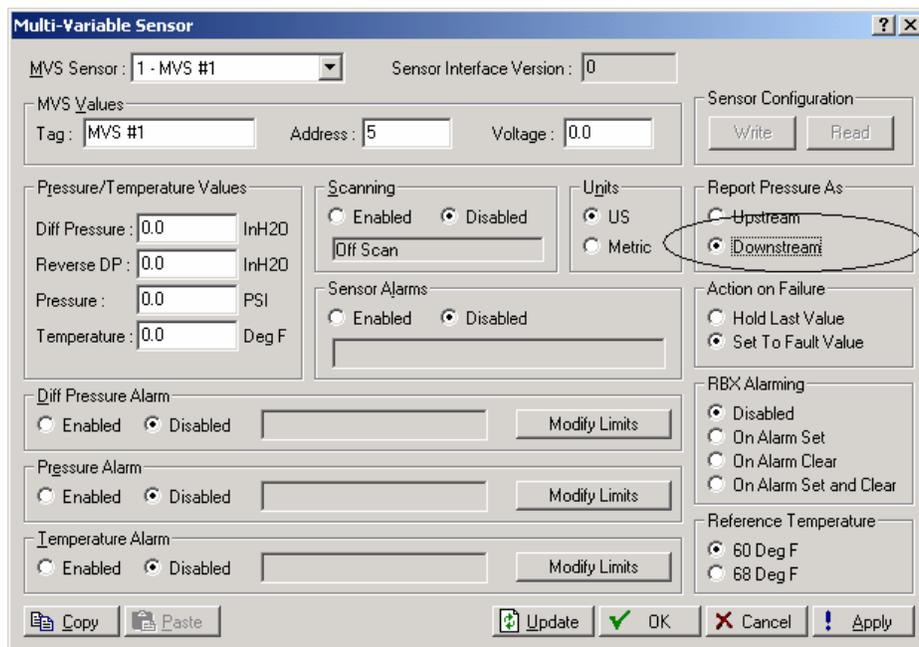

Figure 6-9. Multi-Variable Sensor – Downstream
7. Select the **Downstream** Pressure Tap Location radio button. Refer to Figure 6-9.